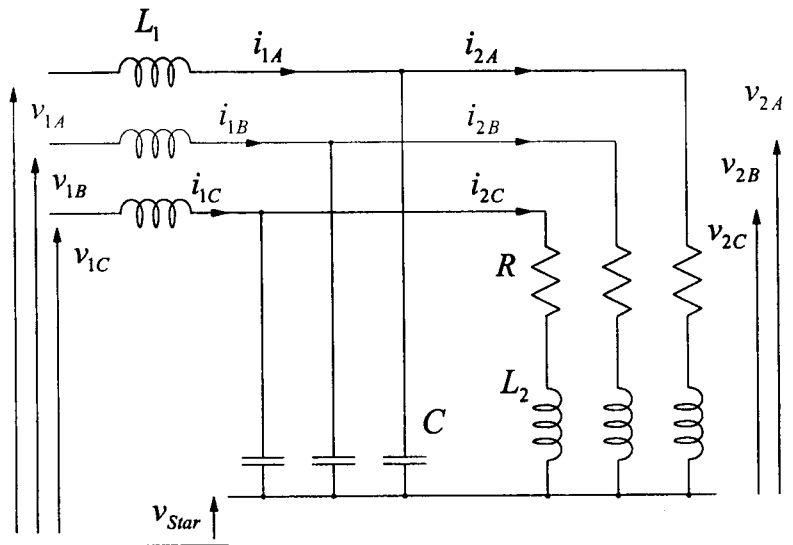

Figure 2.1
- (c) Figure 2.1 shows a three-phase circuit. The circuit is balanced, *i.e.*, the circuit parameters for the three phases are the same. Write the circuit equations for this circuit and transform them into  $dq\gamma$  terms (using  $T$  and  $T_R$  as defined in part (b)) and draw a circuit diagram to represent the transformed system. [10]